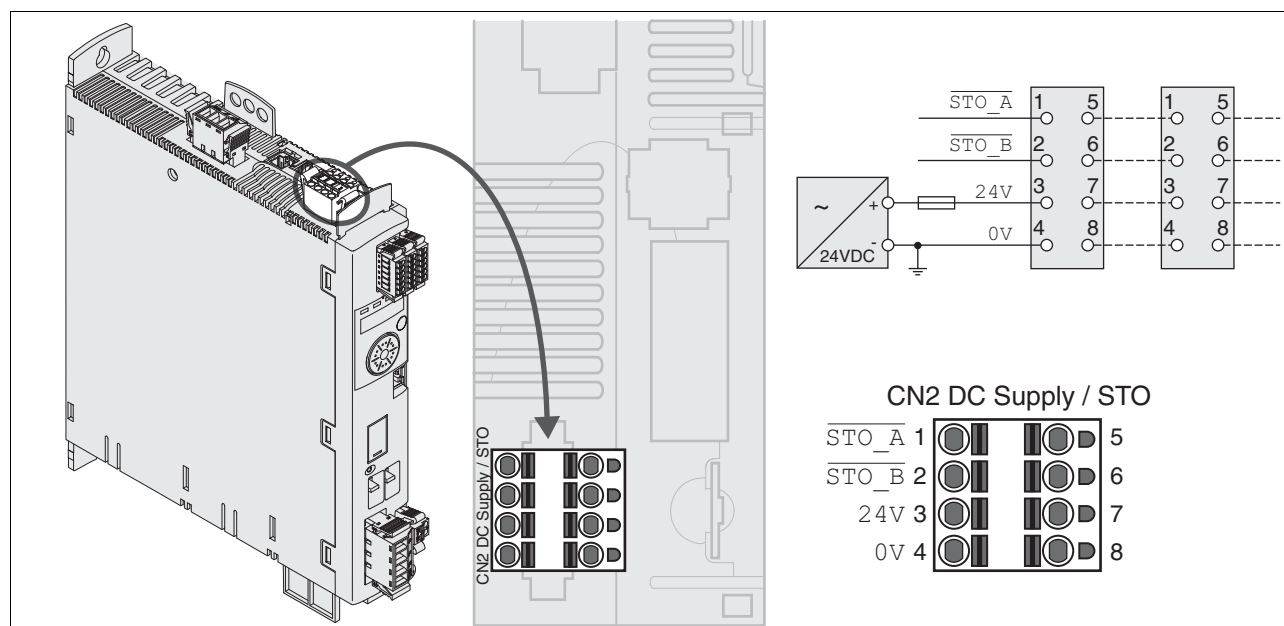

Figure 6.16 Wiring diagram controller supply voltage
- Connection CN2, pins 3 and 7 as well as CN2, pins 4 and 8 (see Figure 6.16) can be used as 24V/0V connections for additional consumers.1 Note the maximum permissible terminal current ( "Properties of spring terminal CN2").